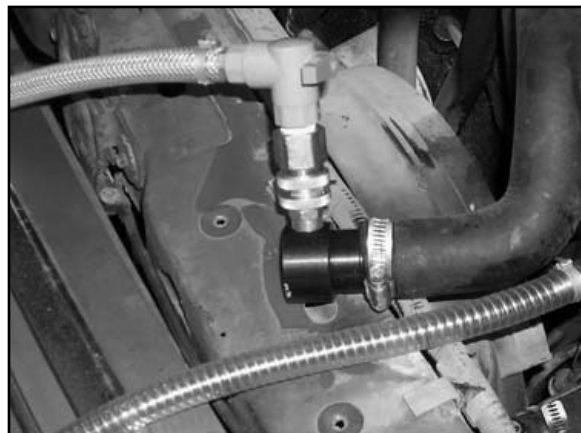

Figure 6: Supply Hose and Adapter Attached to Engine
12. Connect supply hose (blue) and adapter to engine side of disconnected radiator hose, refer to *Figure 6*.